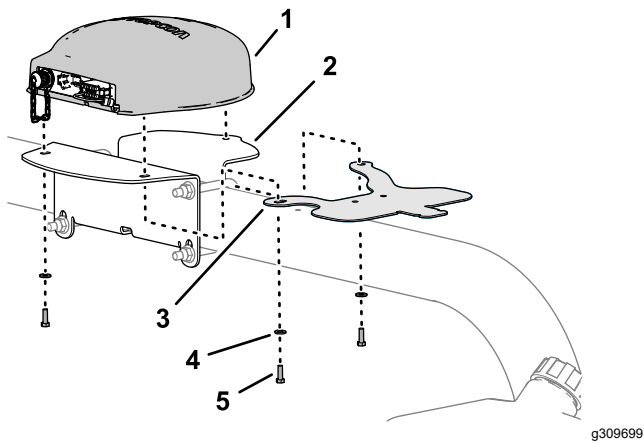

Figure 125
- 1. Align the 3 threaded in the base of the navigation receiver to the 3 holes in the receiver mount (Figure 125).
- Align the hole and slot in the modem-antenna bracket with the holes in the receiver mount (Figure 125).
- Assemble the navigation receiver and antenna bracket to the mount (Figure 125) with the 3 hex-head bolt (5 x 16 mm) and 3 washers (5 mm).